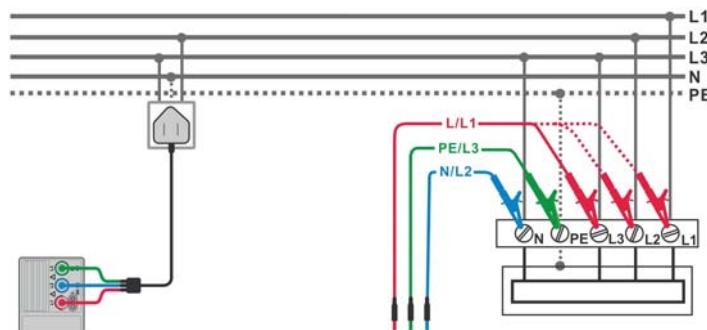

Figure 5.32: Phase-neutral or phase-phase line impedance measurement
- ❑ **Connect** the test leads to the installation wiring to be tested (see Figure 5.32).